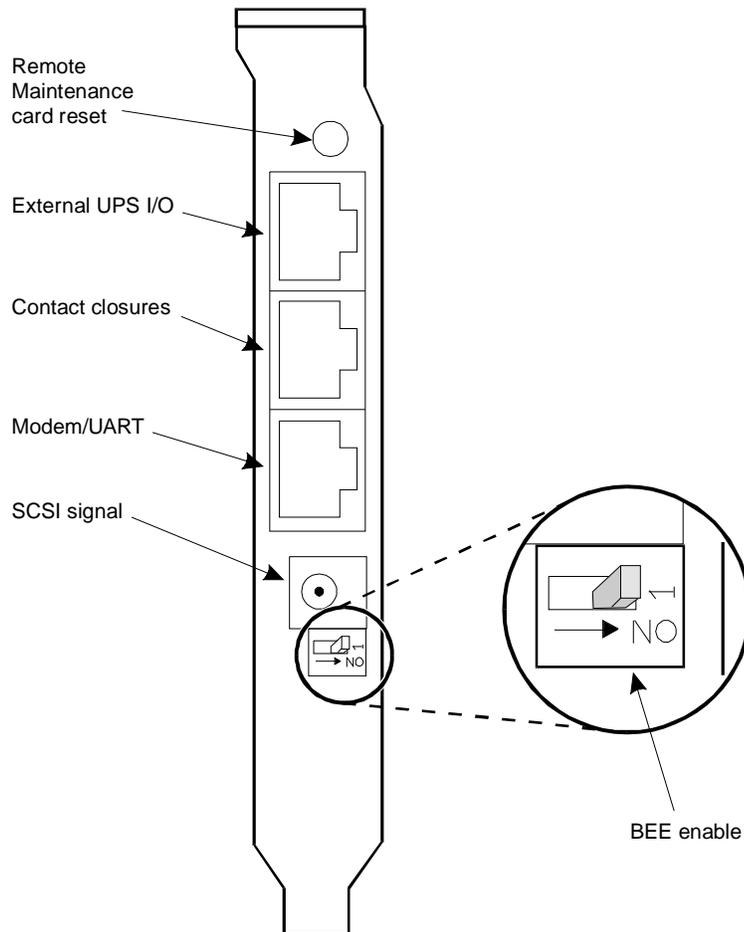

Figure 5-31. Faceplate of the Remote Maintenance Circuit Card Showing the BEE Enable Switch
Figure 5-31 shows the faceplate of the Remote Maintenance circuit card and an enlarged view of the BIOS Extension EPROM (BEE) enable switch. Ensure that this switch is set to the ON (default) position as shown.
Make sure the BEE enable switch on the remote maintenance circuit card is in the ON position (Figure 5-31).
Make sure the BEE enable switch on the remote maintenance circuit card is in the OFF position (Figure 5-31).
15. Place the BEE enable switch on the remote maintenance circuit card in the ON position (Figure 5-31).